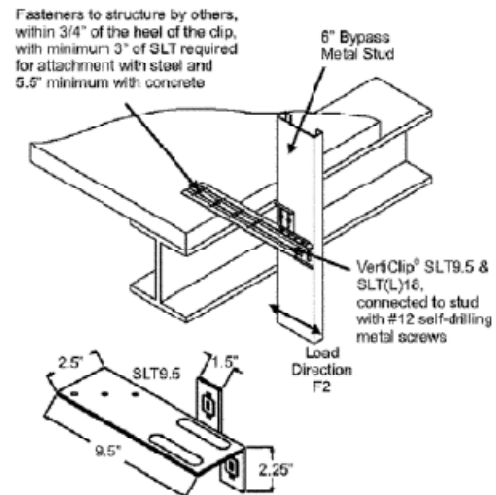

FIGURE 4 - VERTICLIP SLT-9.5 AND SLT(L)18
3.1.5 VertiClip® SLT: VertiClip SLT–9.5 and SLT(L)–18 are formed steel plates having one upward and one downward vertical leg at the end of the connectors that attach to the curtain wall framing members. The minimum base-metal thickness of the plates is 0.0966 inch (2.5 mm). Each leg of the SLT–9.5 is 1½ inches (38 mm) wide by 2¼ inches (57 mm) high, and has one vertical slot measuring 5/16 inch (8 mm) wide by 1⅜ inches (35 mm) long, allowing for a maximum 1-inch (25.4 mm) vertical movement of the framing members. Each leg of the SLT(L)–18 is 2⅓ inches (71 mm) wide by 3⅞ inches (79 mm) high, and has two vertical slots measuring ¾ inch (9.5 mm) wide by 2¼ inches (57 mm) long, allowing for a maximum of 1⅞ inches (47.6 mm) of vertical movement between exterior wall elements and the primary structure. The bend in the steel plate at the vertical legs of the SLT(L)–18 is reinforced with two ⅜-inch-by-5/8-inch (9.5 mm by 15.9 mm) L-shaped steel angles that are factory-attached with four 3/16-inch-diameter (4.8 mm) rivets. The angle reinforcement is 4⅜ inches (111 mm) long and has a minimum base-metal thickness of 0.0677 inch (1.7 mm). Refer to Figure 4 for overall dimensions of the VertiClip SLT–9.5 and SLT(L)–18 connectors and a typical installation detail.